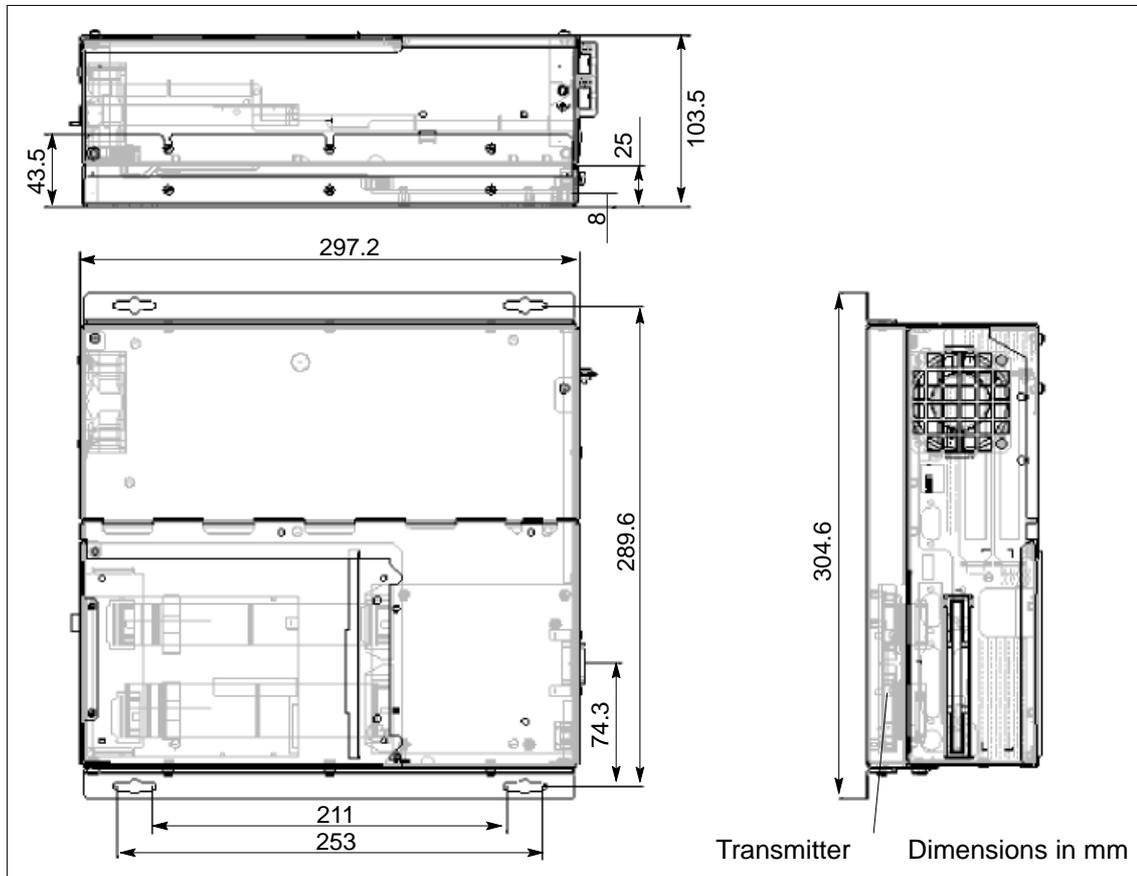

Figure 7-2 Dimensions of PC 670 computing unit in distributed configuration including transmitter
Figure 7-2 shows the dimensions of the PC 670 computing unit with transmitter.
- Dimensions: see Figure 7-2.